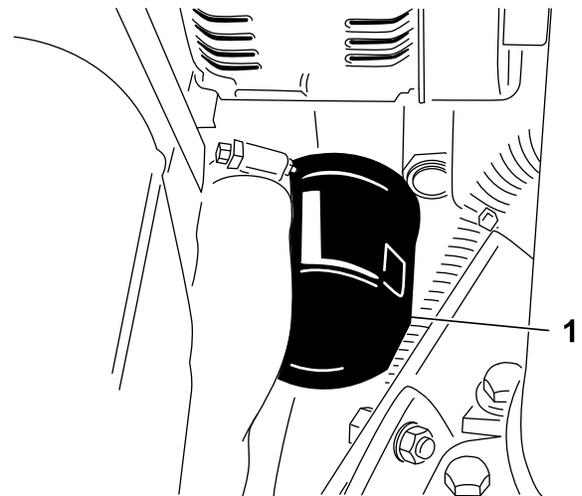

Figure 46
2. Remove the oil filter (Figure 46). Apply a light coat of clean oil to the new filter seal before screwing it on. **Do not overtighten.**